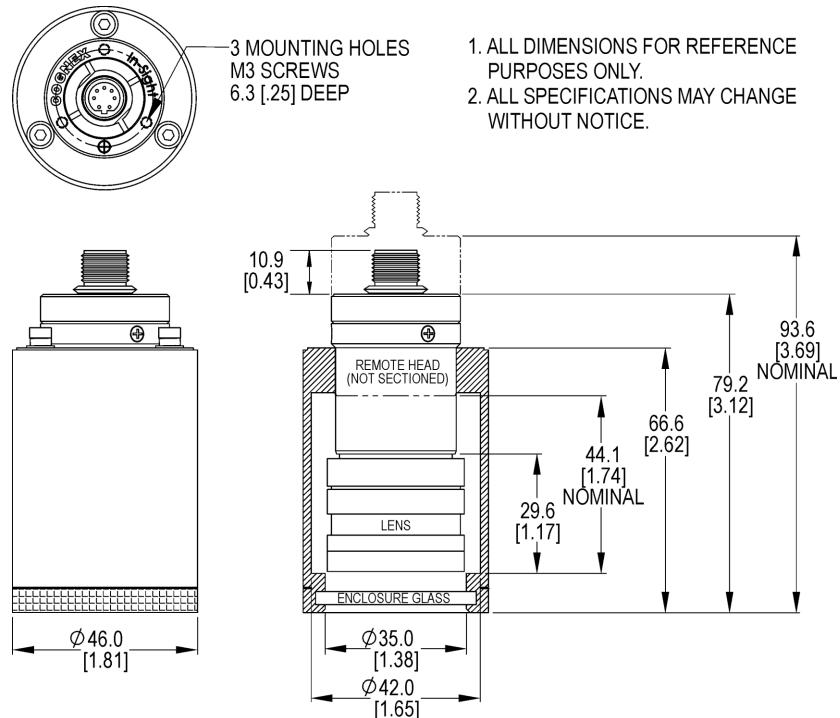

Figure 5-11: In-Sight Remote Head Camera Enclosure Dimensions
1. Attach the remote head camera bracket (item 4) to the mounting surface (Figure 5-11).
2. Attach the remote head camera (item 5) to the remote head camera bracket using three M3 x 8mm Phillips head screws (item 3).
3. If required, slide the Lens Tube (item 6) over the remote head camera (item 5) and secure to the remote head camera bracket (item 4), using four M4 x 18mm cap screws (item 1) and lock washers (item 2).